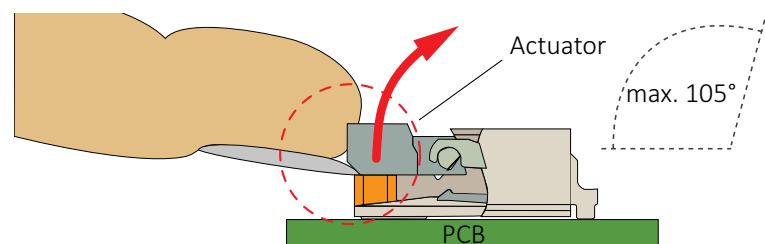

Figure 19: Opening the FPC connector
1. Opening 22-pin FPC flip connectors on adapter boards and cameras: With your fingernail*, flip the actuator to open position at 105° to the PCB surface, see Figure 19.